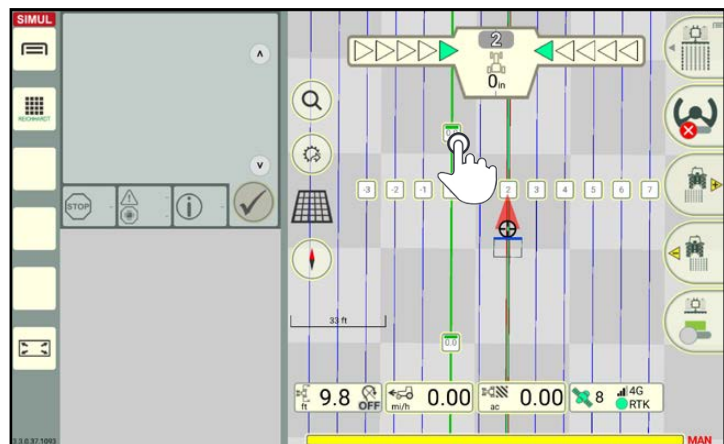

Fig. 168: Tapping the reference track marker
1. Tap a track marker (ideally the reference track marker) (see Fig. 168).